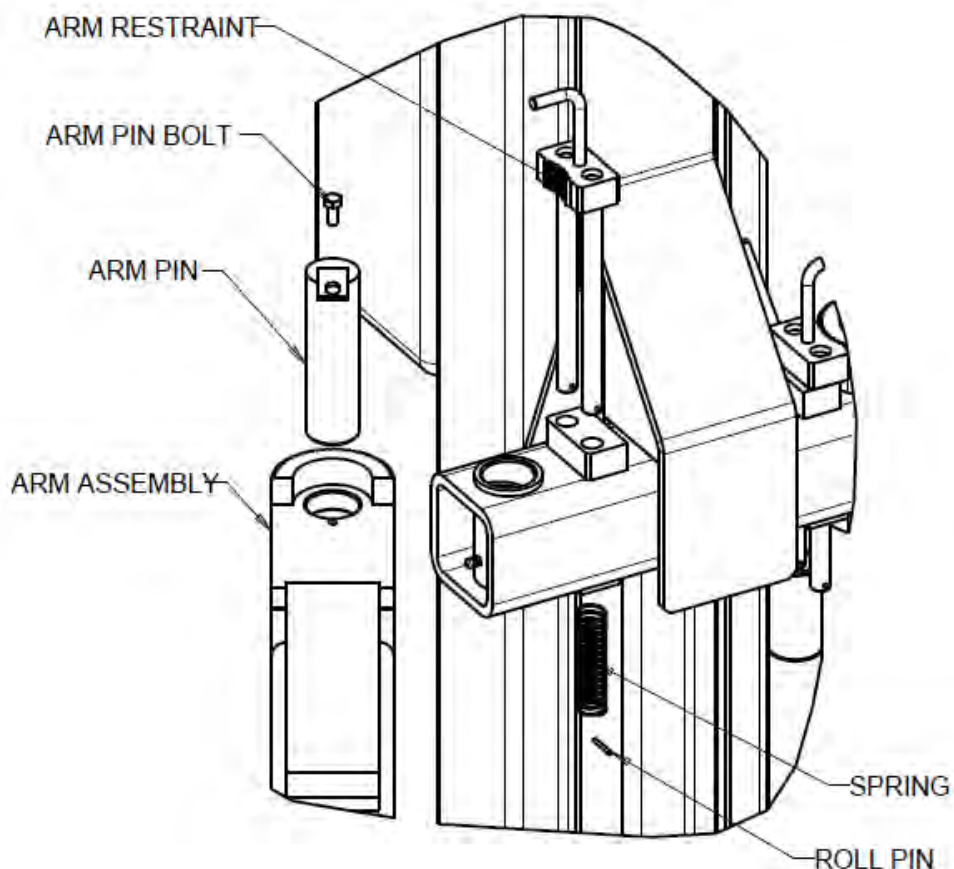

Figure 15 – Arm & Arm Restraint Installation
10. Insert the threaded stud into the 5/8" dia. hole in the mounting bracket second from the top of the carriage. **(Figure 15).**
11. Use a wrench to hold the top of the threaded stud to prevent it from rotating. Hand tighten (2) 1/2"-13 UNC nuts onto the threaded stud enough to remove all visible cable slack. Repeat steps 2 to 5 for the other equalizing cable.